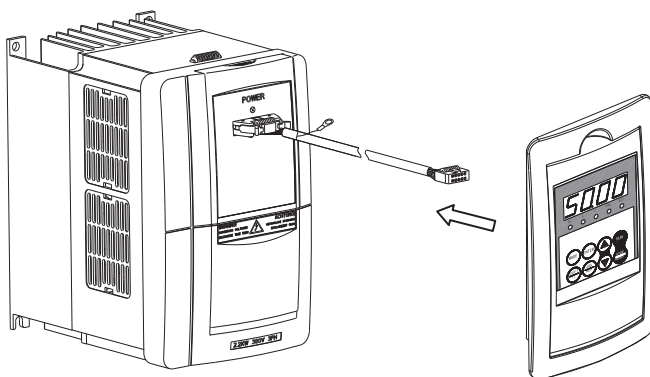

Fig. 3-11 Mounting Diagram for the operator panel and connecting wire of the inverter Model A
Step 4. Put the dismantled keypad into the installation frame ,Fix and fasten it. Put the other side cable insert into the keypad .(as shown in Figure 3-11).